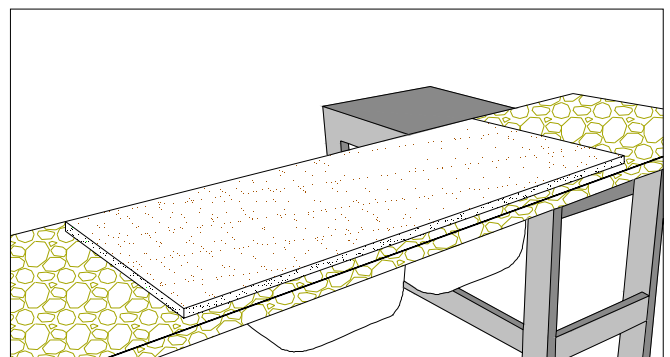

Figure 16D
- Apply pressure directly to the sink rim area with two sheets of particle board or with something of comparable weight. (FIG. 16D)